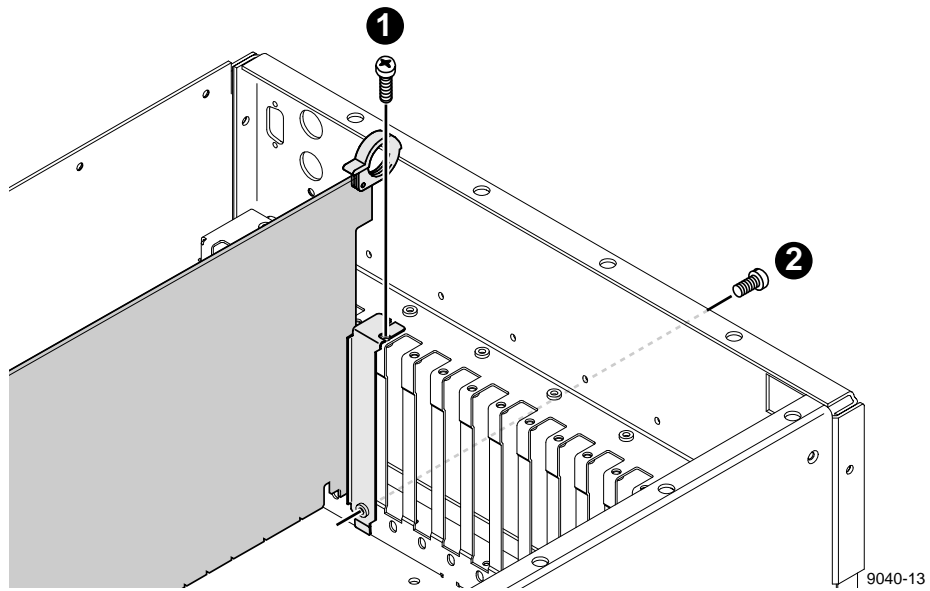

Figure 6. Screw locations for a board bracket
2. Use the Torx tool with the T15 tip to remove the screw from the bracket inside the chassis (❶ in Figure 6) and the screw through the rear panel outside the chassis (❷ in Figure 6 on Reference Genlock card only).